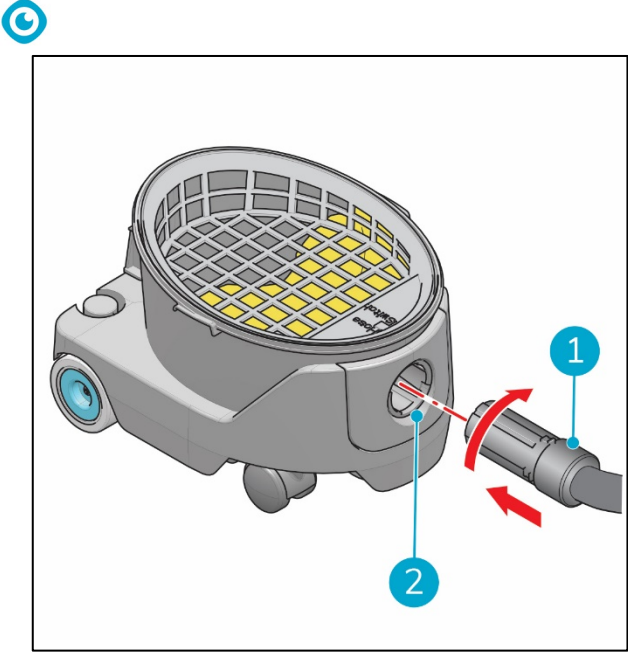

Figure 12
14. Place the hose (Figure 12, pos 1) into the hose connector (Figure 12, pos 2) turn it clockwise to lock it.